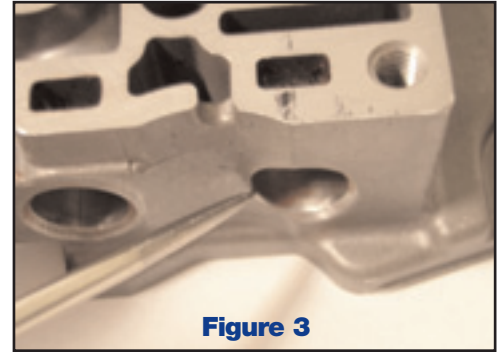

Figure 3
3. Remove the ridges identified in step 2. The recommended method is to use a 3/8" diameter flap wheel chucked in a miniature die grinder. Any method that removes the ridge without damaging the bore is acceptable. Remove the ridge and smooth the transition from the chamfer into the bore. If the ridge is not eliminated it will destroy the o-ring. In the case of the 3rd Gear Band (B4) Release Valve, it is necessary to form a small chamfer (approximately .020" to .030" deep) along the contoured edge of the valve bore (see Figure 3).